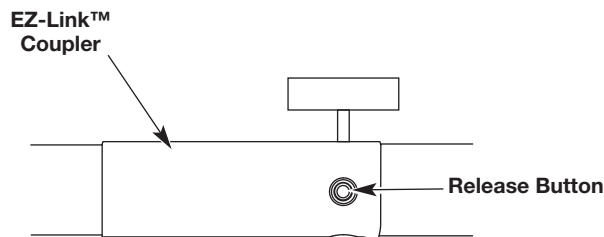

Fig. 2
2. Press and hold the release button (Fig. 2).